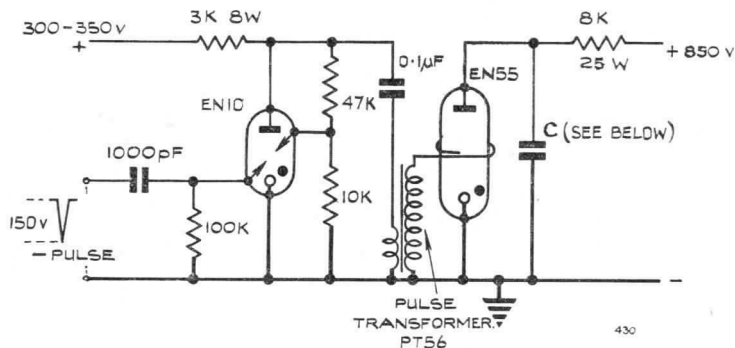

Fig. 1
- (1) For operation at frequencies from 5 to 250 c/s. The trigger pulse voltage may be satisfactorily derived from a trigger circuit using a 'NEOSTRON' type tube (EN10) as illustrated in Fig. 1. The controlled frequency pulse which is applied to the trigger electrode of the EN55 determines the flash frequency of the EN55. Further information on the operation of this circuit is contained in the EN10 data sheets.